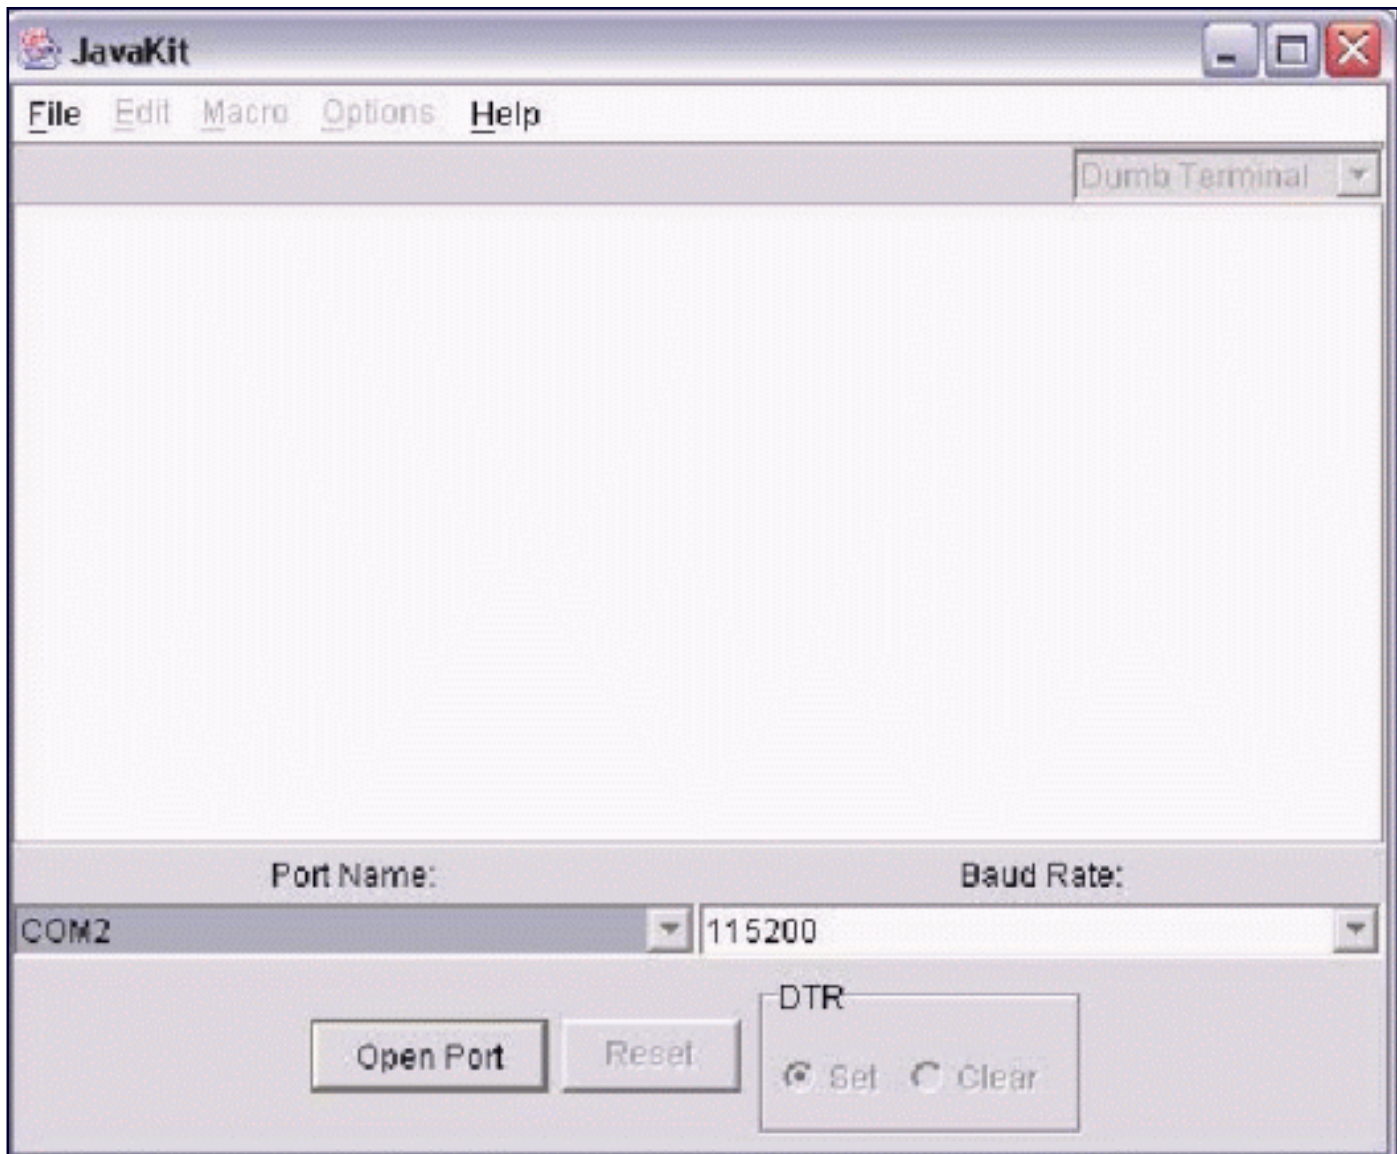

Figure 3. **JavaKit** interface.
**Figure 3** shows the **JavaKit** window.